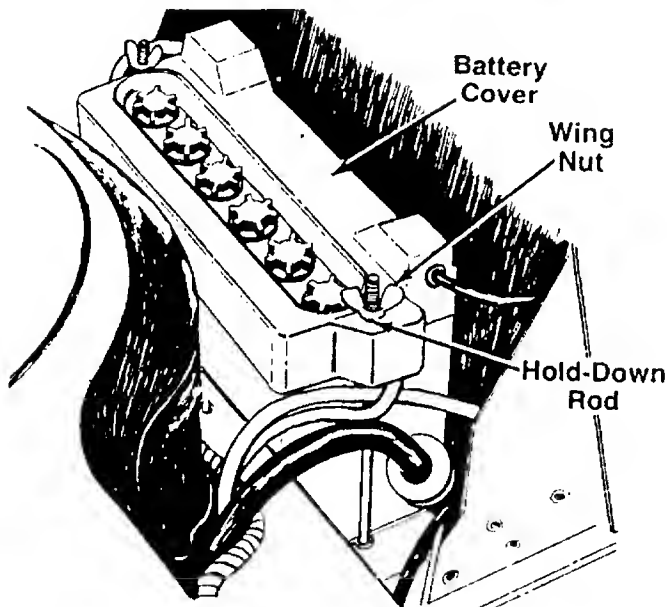

FIGURE 7.
6. Place the black plastic battery cover in position over the hold-down rods. Secure with wing nuts. See figure 7.